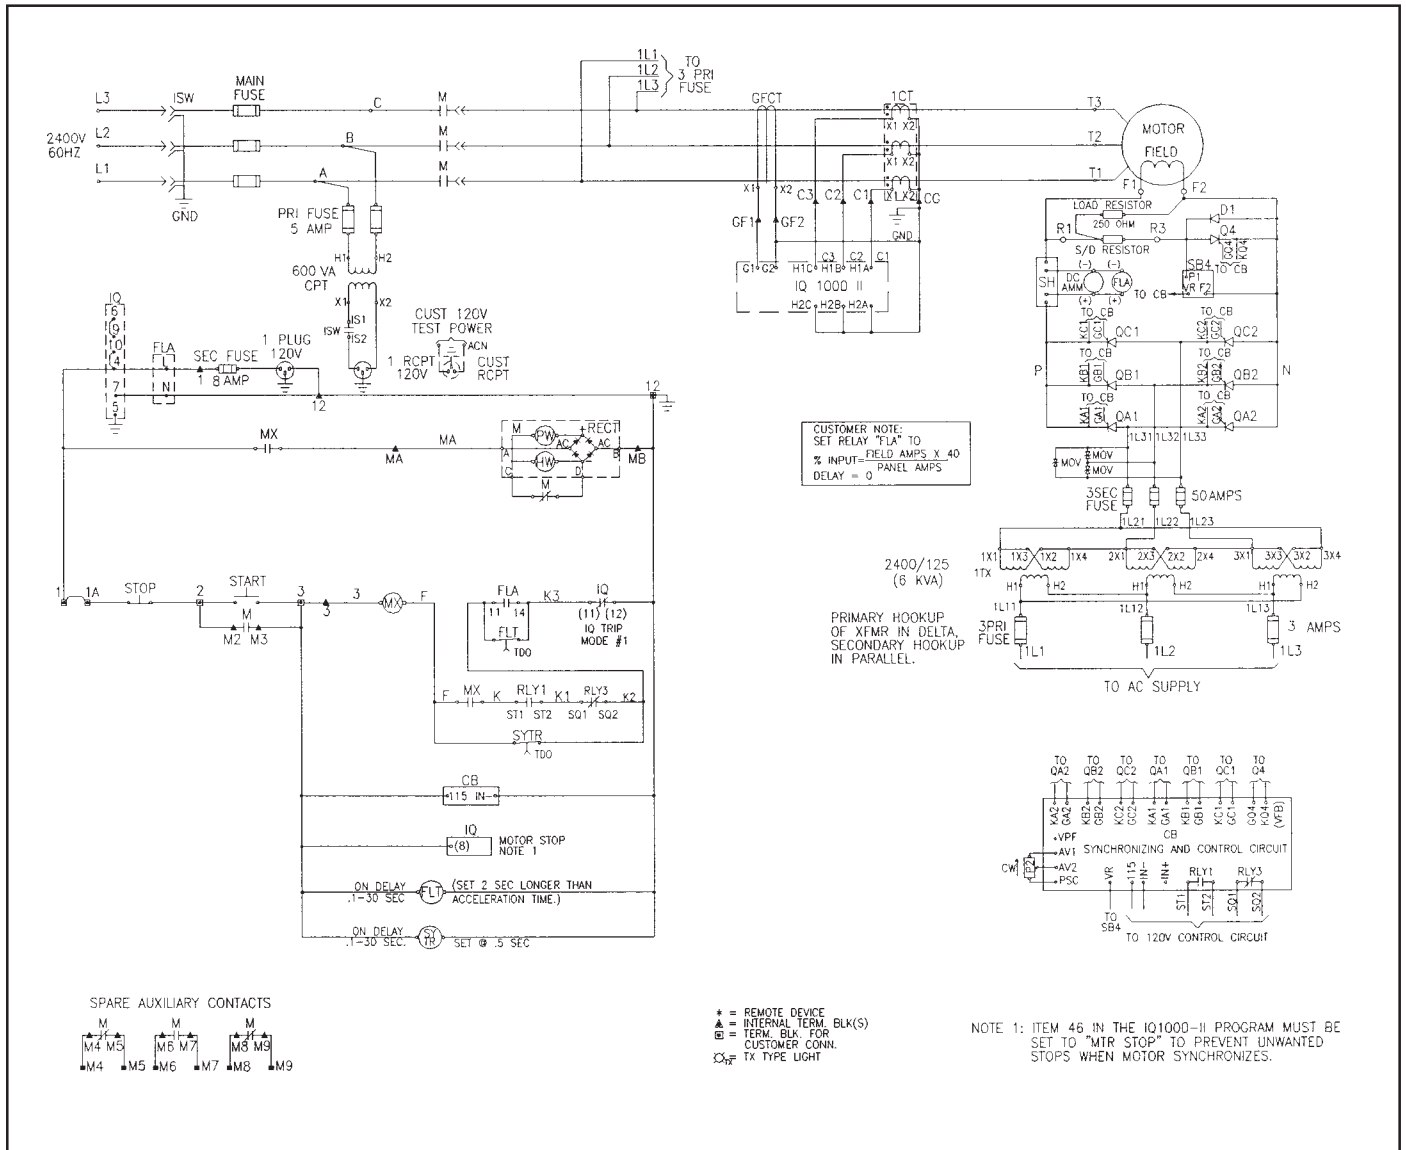
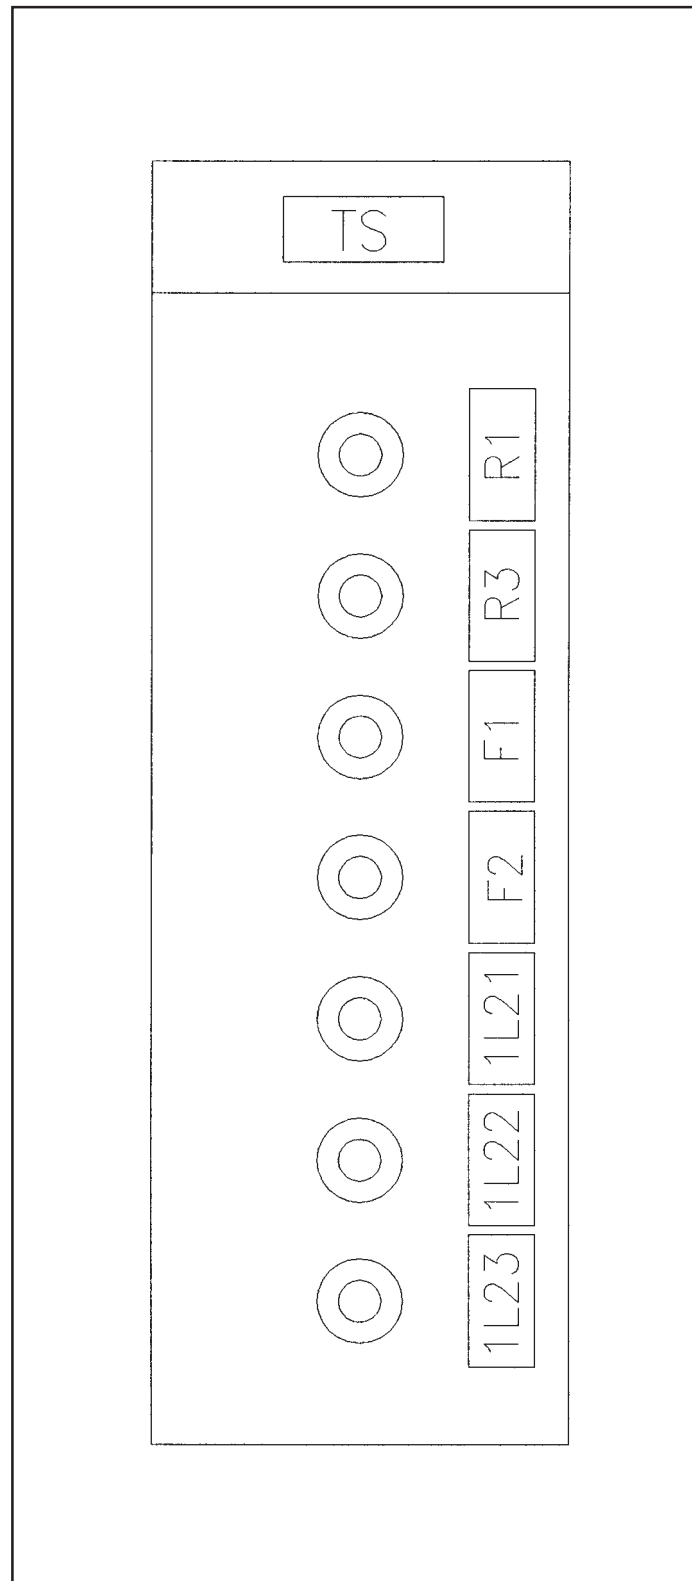

Fig. 4 Mark V Controller Schematic
Fig. 8 Cubicle Terminal Strip
Mark V controllers for synchronous motors consist of the basic components shown in Figure 4. Their functions are as follows:
The starting and field-discharge resistor (S/D RES) is used to improve the motor starting torque and to limit the induced field voltage during starting or when the field excitation is removed. The resistor current and ohmic values are determined by the motor designer. The motor controller is designed to operate motors with less than 1,500 volts rms in the field during starting. The current flowing to the resistor is controlled by diode D1 and SCR Q4 (Fig. 4). Voltage feedback (VR on the synchronizing control board) provides information about the induced field voltage, frequency, and phase angle.
Figure 4 shows the field power supply controller in conjunction with the motor controller for a synchronous motor starter. Note that the connection to the field supply transformer is between the contactor (M) and the IQ component so that the current transformers sense motor stator current only.
To adjust the motor field voltage, use the external 2000 ohm potentiometer (P2) shown in Figure 4.
Each Mark V synchronous motor controller has a terminal strip consisting of seven studs on standoff insulators mounted on a subpanel and labeled as shown in Figure 8. Disconnect leads from these stabs as necessary to conduct the following tests:
3. Measure the resistance of the starting and discharge resistor (S/D RES on schematic diagram, Figure 4) at terminals R1 to R3 on the terminal strip (Figure 8). The measured value should be as shown on the diagram accompanying the order. Measure the resistance between terminals VR and KA1 on the synchronous control board (CB). The reading should be 50 ohms + R1-R3 value.